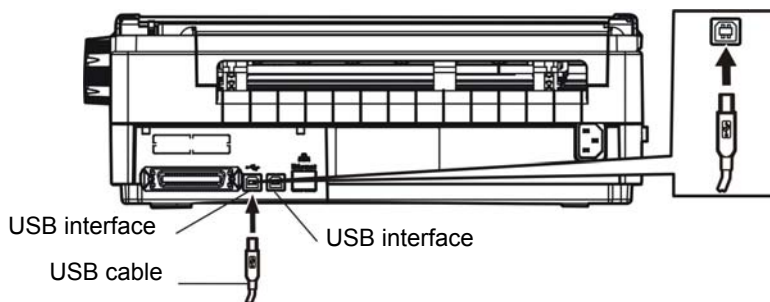

Figure 1-14 Connect to USB cable
1. Plug the USB cable A end (flat shape) into the computer's USB interface. (As shown in figure 1-14)